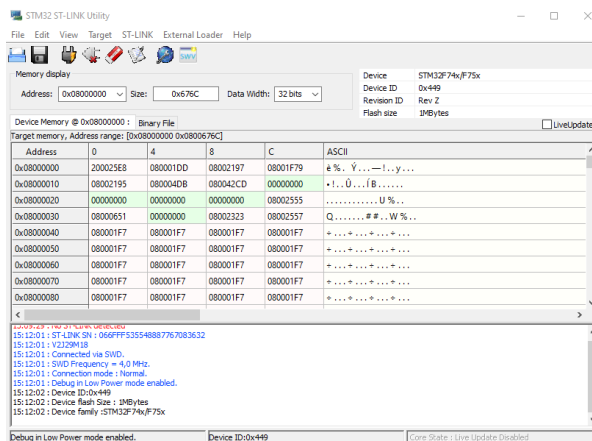

Figure 7: STM Utility Window
3. Select “Target” → “Program & Verify...”. See Figure 7: STM Utility Window.